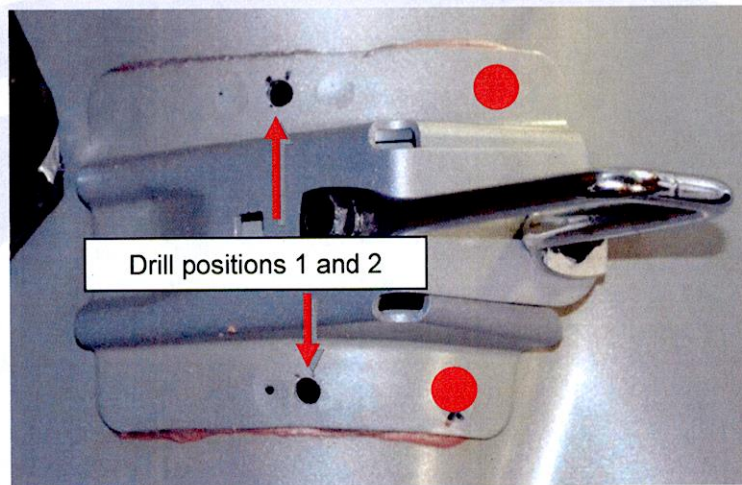

Figure 8
1. Using a 1/4 in (6.35 mm) drill bit, drill positions 1 and 2 on the 2nd row seat striker bracket (Figure 8). Drill completely through all panels.